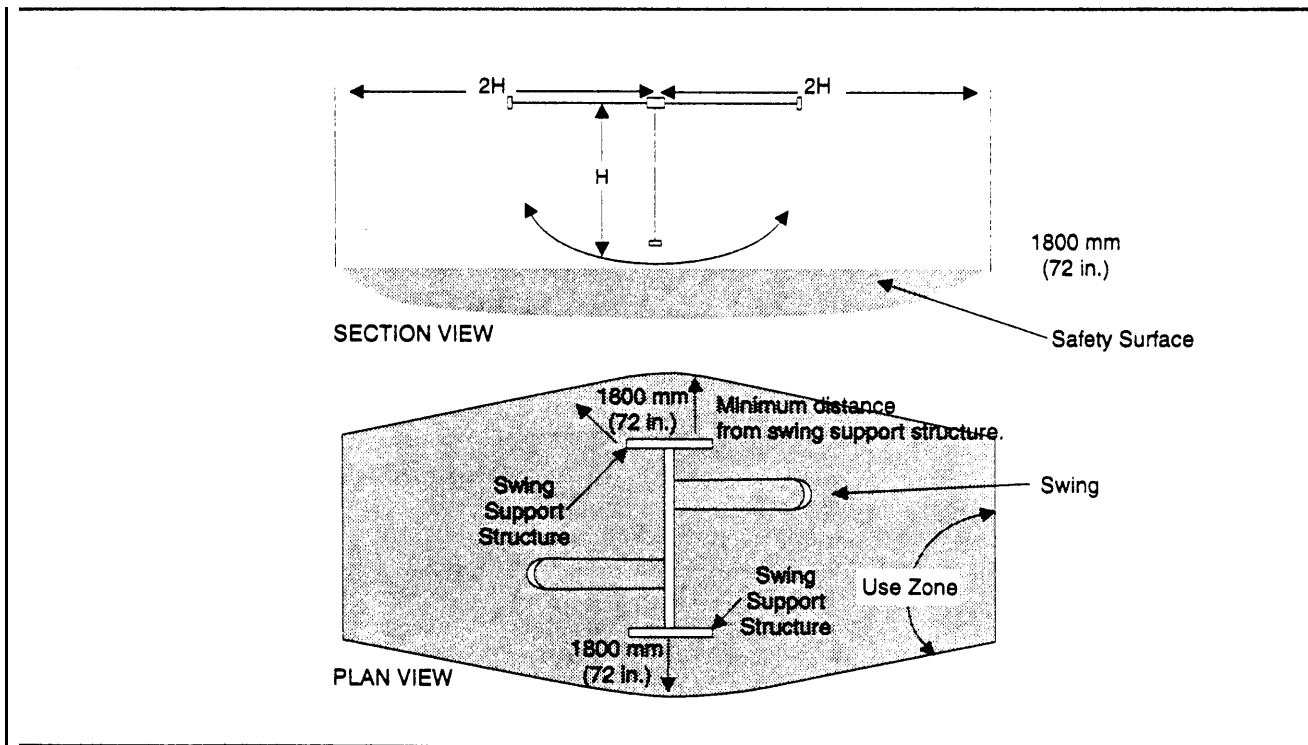

Figure 3-4: Typical swung use zone.
*b. To-Fro Swing Use Zone.* Swings require an ample fall zone to protect children who may fall or jump from a moving swing (fig 3-4). For swings, the use zone is equal to two times the height of the crossbeam. This use zone will be provided both in front of and behind the equipment. A 1800 mm (72-inch) use zone must also be provided on both sides of the swing. When two swings are located adjacent to each other, the swings may share the use zone at the side.